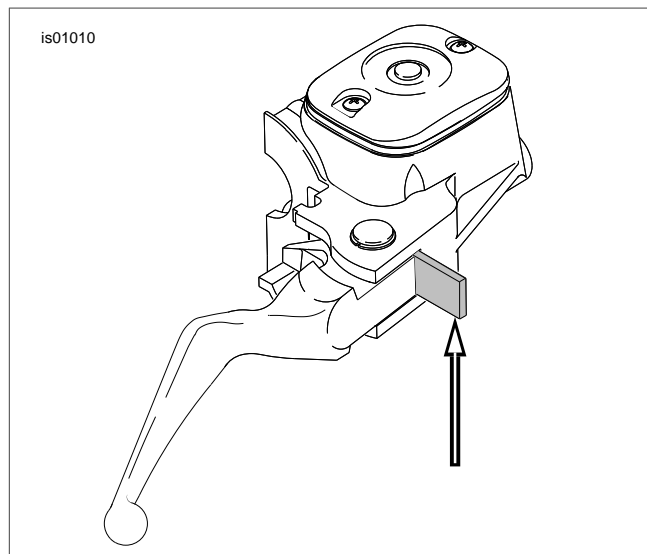

Figure 3. 5/32 in. (4 mm) Cardboard Insert
3. See Figure 3. Place the cardboard insert between the brake lever and lever bracket.